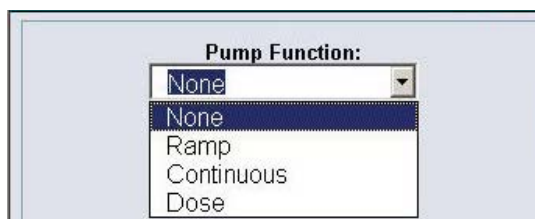

Figure 4.28. Drop-down menu for pump functions.
- From the Pump Function drop-down menu, choose the desired function: Ramp, Continuous, or Dose (Figure 4.28). Each function is described in the following sections.